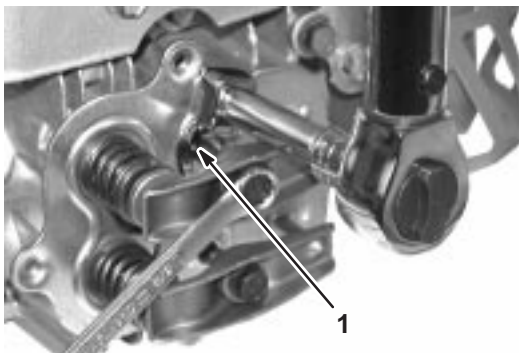

Fig. 64 – Locking Jam Nut
- While holding screw, torque jam nut to 85 in. lbs. (10.0Nm) and recheck clearance, Fig. 64. Recheck valve clearances and readjust, if required.